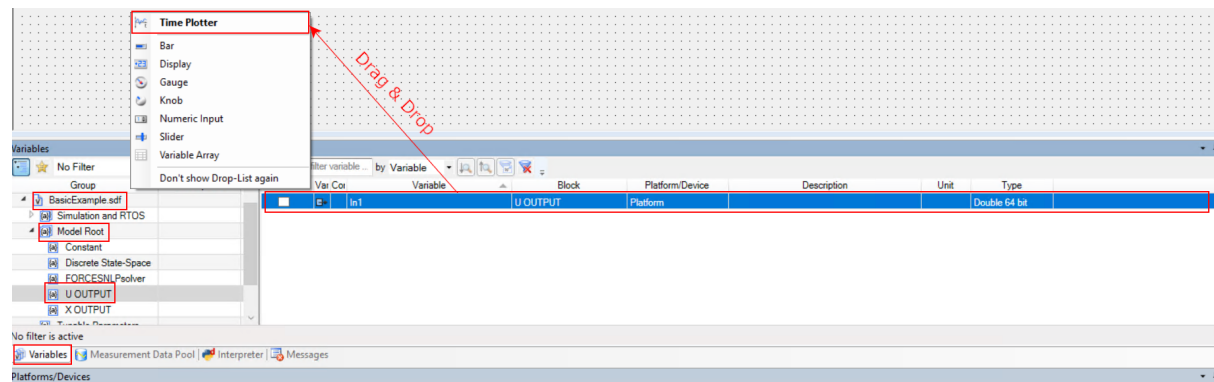
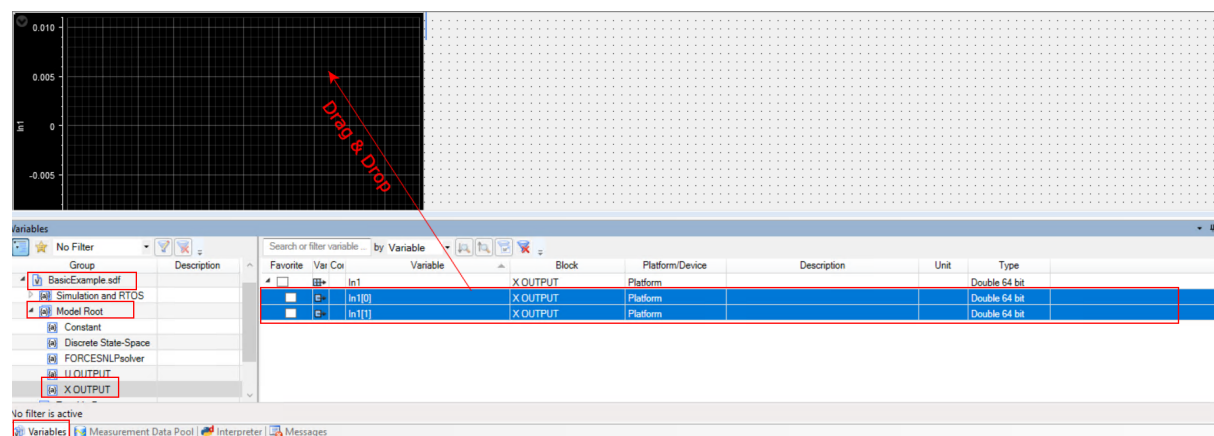

Figure 13.53: Add the inputs of U OUTPUT in a Time Plotter.
Figure 13.54: Add the inputs of X OUTPUT in the same Time Plotter.
- 7) Select `u OUTPUT` and `x OUTPUT` and Drag & Drop all the input variables together to the Layout. In the opened menu select `Time Plotter` (see Figure 13.53 and Figure 13.54).